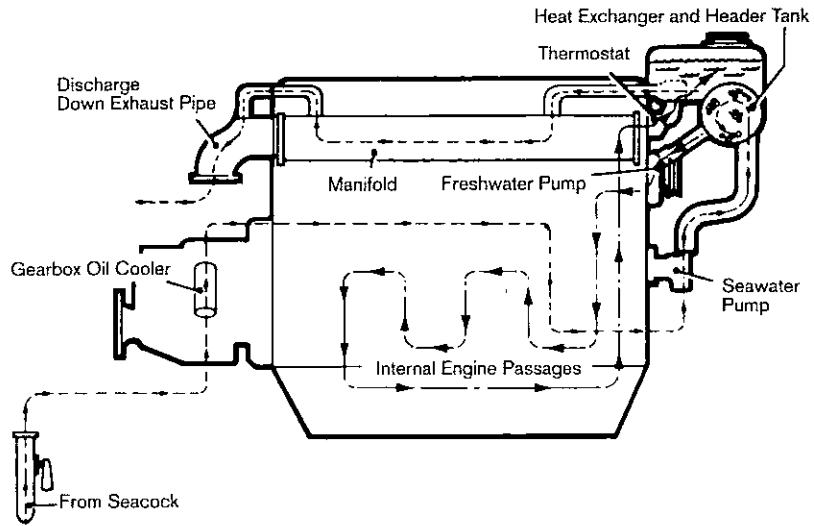

Fig.8 Engine and gearbox cooling circuit
**CAUTION:** Failure to correctly install an oil cooler into the lubrication circuit can result in damage to the gearbox see page 16 fig. 8/9 for correct circuit. After a gearbox failure it is extremely important to flush cooler and hoses completely to remove any contamination. Failure to do so could result in the new/repaired gearbox failing prematurely.